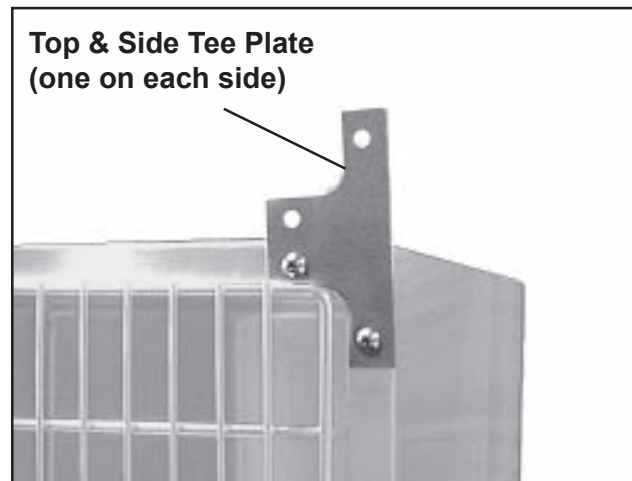

Figure 8. Top & Side Tee Plate Mounted on Cage
13. Mount one top & side tee plate to each end of the upper front of the arrangement (Figure 8).
22. Fasten the heat connector housing securely to the two top & side tee plates installed earlier (Figures 8 & 14).